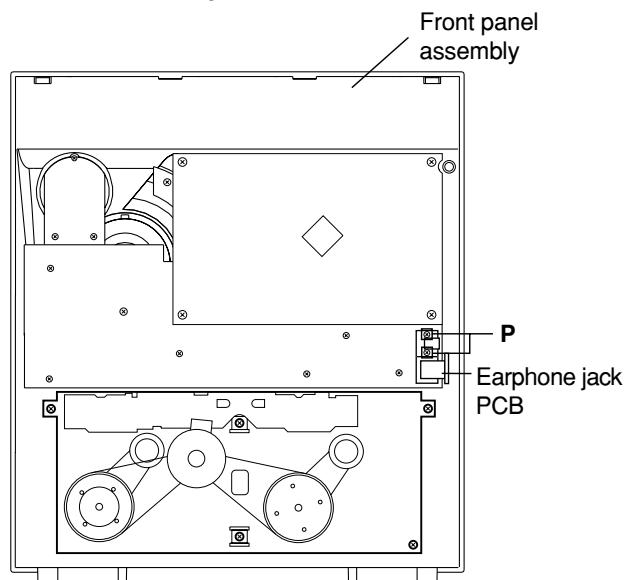

Fig.22
■ Removing the earphone jack PCB and Mic Jack PCB (See Fig.22)
- Remove eleven screws **R** retaining the switch (key 1) PCB. (Fig.22)
- Remove three screws **S** retaining the sound mode (key 2) switch PCB.
- Remove two screws **T** retaining the CD function (key 3) switch PCB.